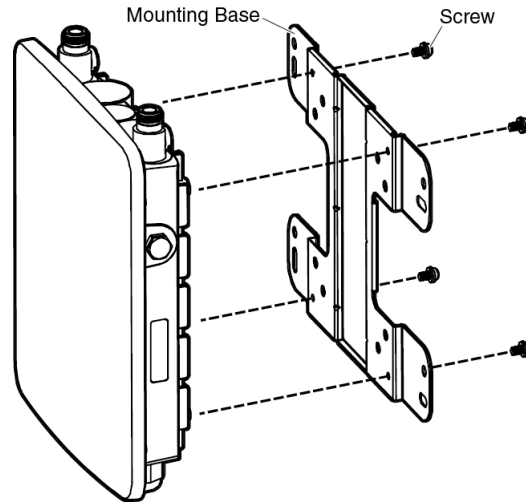

Figure 15. Attaching the Mounting Base to the Access Point
3. Attach the mounting base to the access point with the screws using a Phillips-head screwdriver, as shown in Figure 15 on page 47.
2. Attach the mounting base to the access point with the screws using a Phillips-head screwdriver. See Figure 15 on page 47.